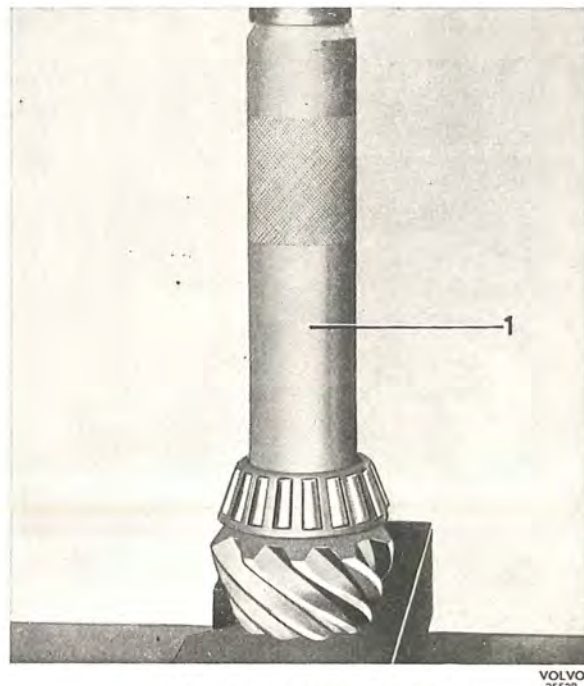
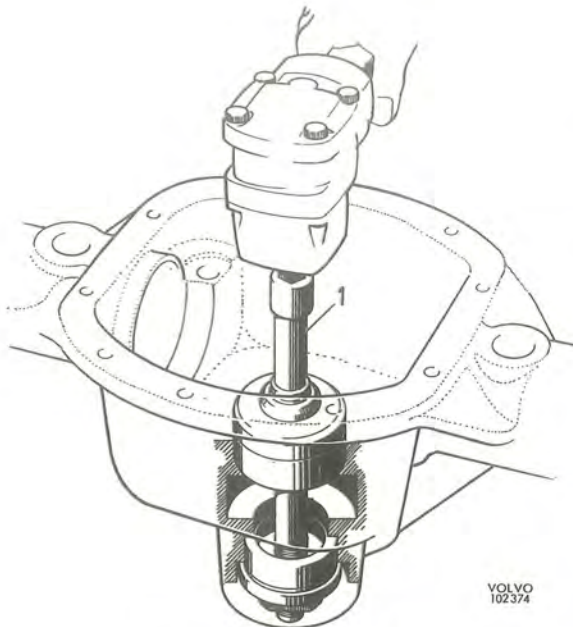

Fig. 4-91. Fitting the rear pinion bearing
Fig. 4-92. Fitting the bearing rings
- Press the rear bearing on the pinion with sleeve SVO 2842, see Fig. 4-91. Fit the measured shims and press in both the outer rings of the bearings with tool SVO 2845, see Fig. 4-92.